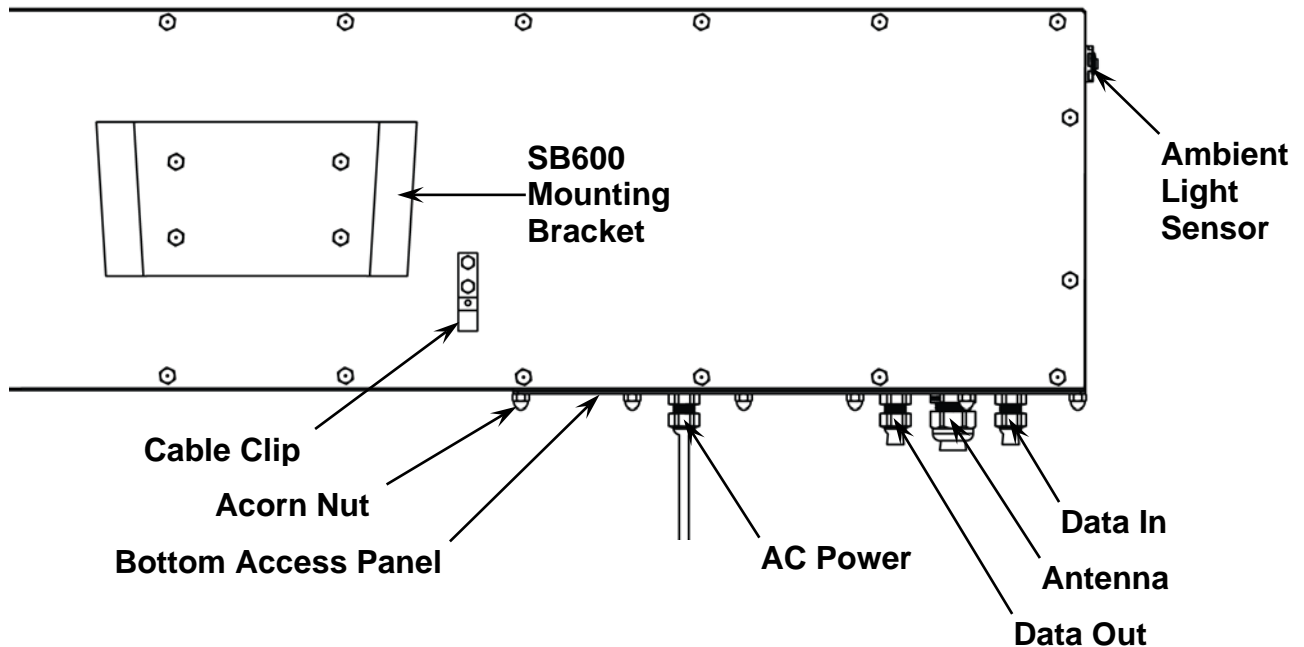

Figure No. 3 – Components and Gland Layout
1. Referring to Figure No. 3 for an illustration of the gland connectors, bring the AC power into the enclosure.
1. Loosen the gland connector for the serial cable. The gland connector for the serial cable is located on the bottom of the enclosure. Refer to Figure No. 3 for an illustration of the gland connector layout.